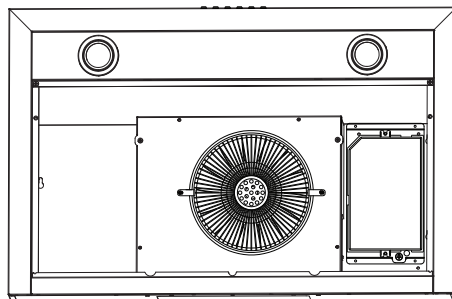

Figure 1
- Remove the 2 filters to allow access to the inside of the unit (see Figure 1).